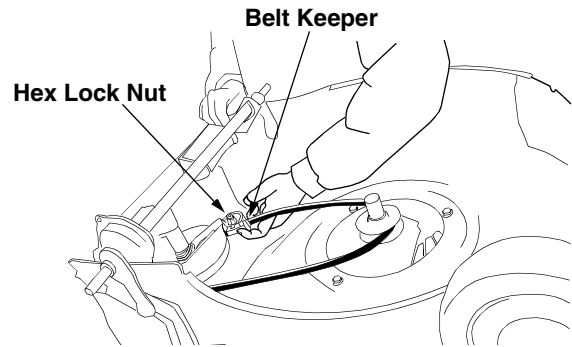

Figure 20
- Loosen the hex lock nut holding the idler bearing. Push back and rotate the belt keeper. See Figure 20.